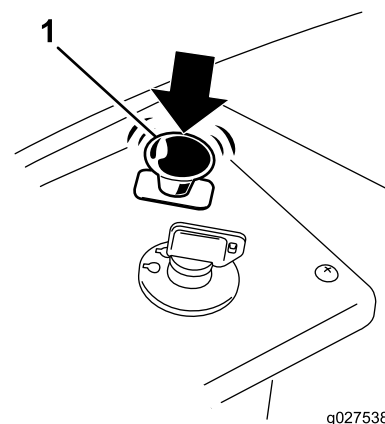

Figure 15
1. Disengage the blades by pushing the blade-control switch to the OFF position (Figure 15).